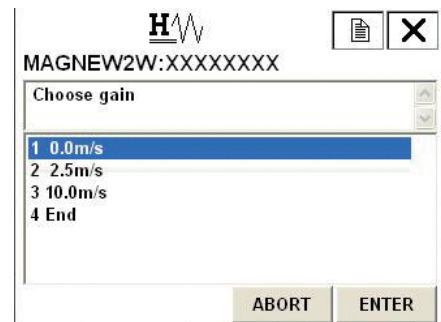

Fig. 7-57.
3. Once the display as shown in Fig. 7-57. appears, move the arrow key up or down to select a gain to adjust, and then press F4 (ENTER). This time, select 0 m/s.